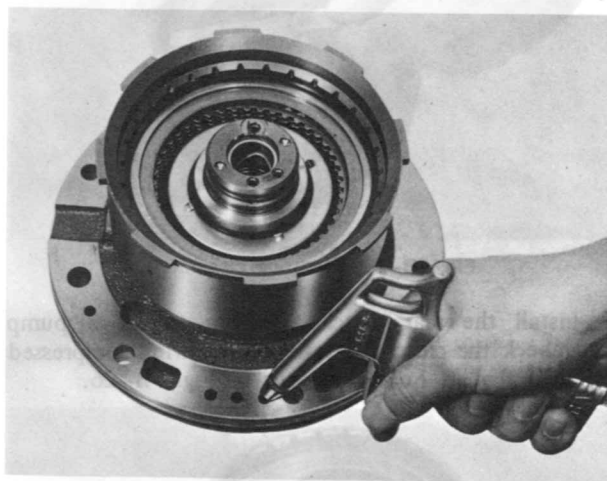

Fig. 7B-23 Testing front clutch
3. Install the front clutch assembly to the oil pump. Blow compressed air into the oil hole as shown in Fig. 7B-23 and check the clutch operation.